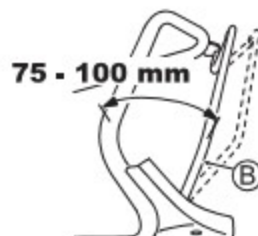

Fig. 14
Adjust so that the machine runs (the drive clutch gets engaged) when the distance between Drive clutch lever (B) and the handle is 75 - 100 mm as shown in Fig. 14.